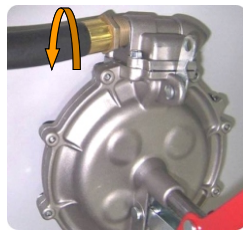

Figure 3
- Now assemble the rubber hose with the die cast dispensing nozzle onto one end of the hose. Assemble the other end onto the pump outlet (see Figure 3). It is good practice to use a